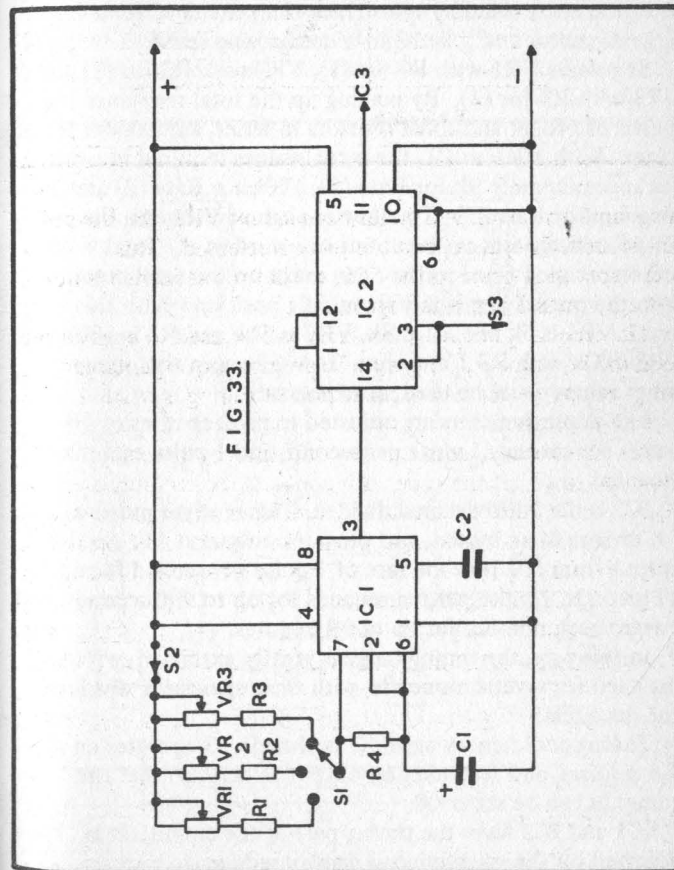

FIG. 33.
struction of a digital timer quite easy. The one described here in Figure 33 has three rates, to make the best use of two digits. The rates can be selected by means of a switch, and are (1) to 99 seconds in 1 second intervals, (2) to 990 seconds in 10 second intervals, and (3) to 99 minutes in 1 minute intervals.
The 555 timer IC is used as the clock, Figure 33. Because of the difficulties which sometimes arise when arranging for a very long timing interval, pulses are obtained at ten times the wanted rate, and are divided by ten. This avoids the need for a very large capacitor at C1, or high value charging resistors.
Components:- Digital Timer (Figures 33 & 34)